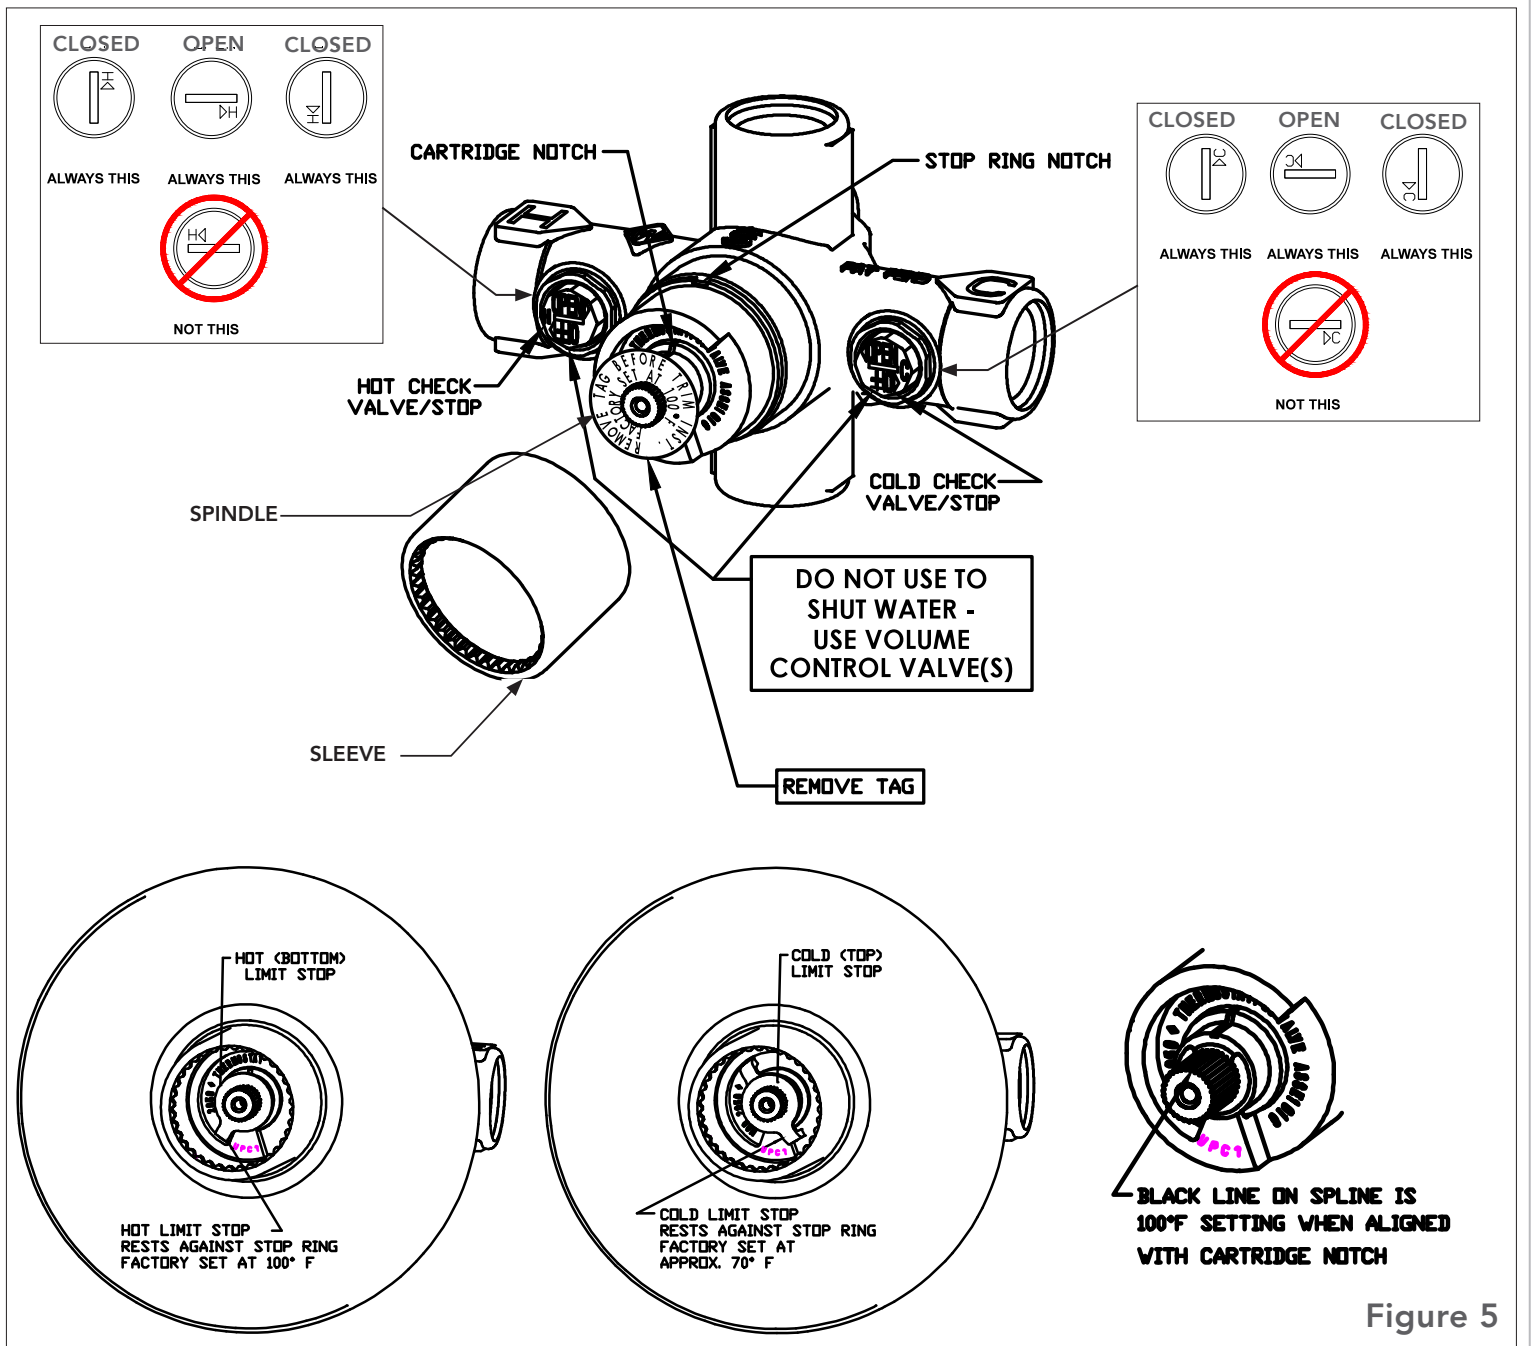

Figure 5
- v. Apply silicone grease to the o-rings on the thermostatic cartridge, insert cartridge into valve body rotating back and forth slightly. Orient cartridge with the notch up in the 12 o'clock position. See Fig. 5.
(6) System Check
- A. Close hot and cold check stops on thermostatic valve. See Fig. 5
- E. Open hot and cold check stops. See Fig. 5
- I. Close hot and cold check stops during finished wall fabrication. See Fig. 5
(9) Thermostatic valve set up
- C. Screw sleeve onto thermostatic valve body until it bottoms on stop ring, to retain stop ring. See Fig. 5
- E. Open hot and cold check stops, see Fig. 5.
- i. Remove limit stops, Fig. 5
- iii. Measure water temperature while rotating spindle counterclockwise. Stop rotation at highest desired water temperature to stabilize for one minute, confirm desired setting. See Fig. 5 & 6.
- iv. Replace hot limit stop so leg is resting against stop ring. See Fig. 5
- vi. Replace cold limit stop so leg is resting against the stop ring. See Fig. 5.